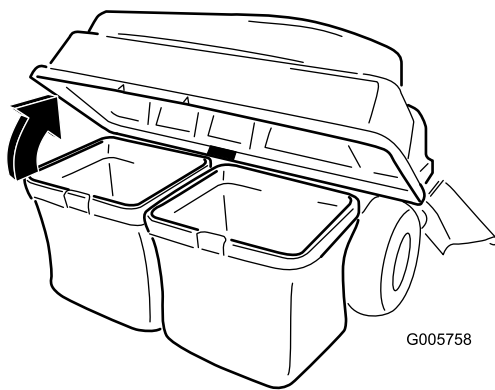

Figure 25
- Open (raise) the bagger top (Figure 25).